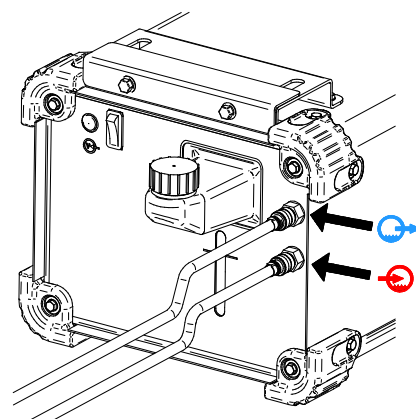

Figure 6.
- Connect the water-cooler hoses to the cooler's inlet [5] and outlet [4] socket (Figure 6).
- Connect the water-cooler hoses – Figure 6.